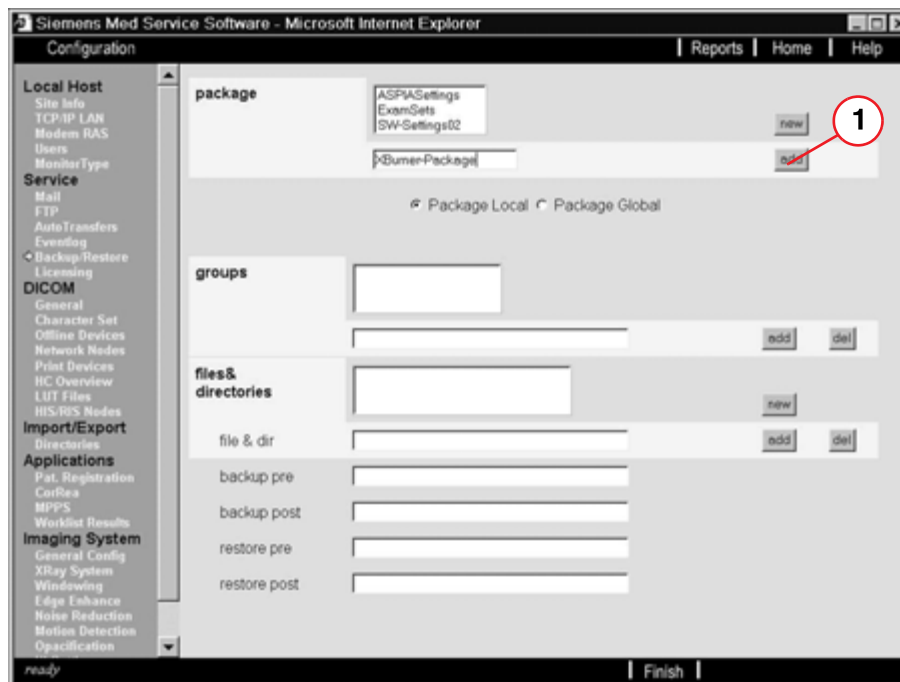

Fig. 116: Service_Backup/Restore_XBurner package
- Enter "XBurner package" as described in the picture below and accept this entry by clicking on the "Add" button (1/ Fig. 116 / p. 125).